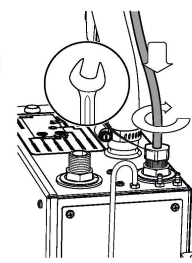

Fig 13
2. Connect the flexi hose to the module "water outlet" by hand. Tighten with a 23mm spanner (figure 13).